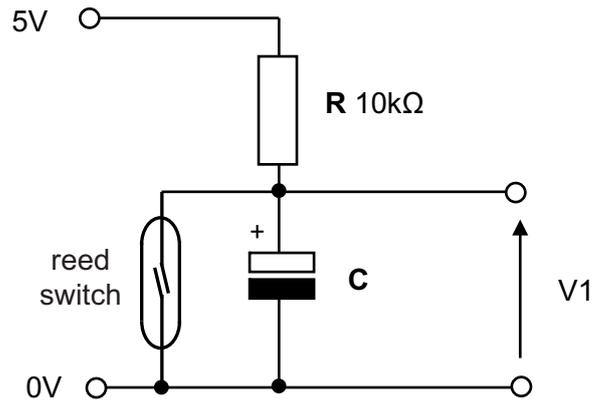
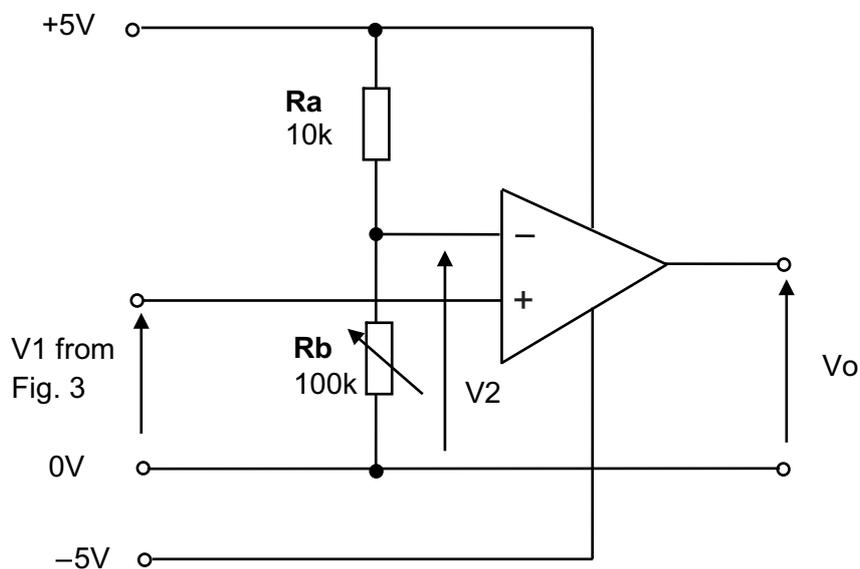
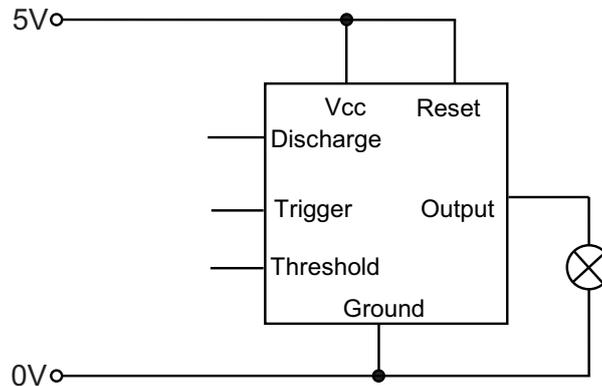

Fig. 3
Fig. 4
Fig. 5
10 (a) A RC circuit with a normally open reed switch is shown in Fig. 3.
- (i) State the effect on V_1 in Fig. 3 when a magnet is held close to the reed switch. [1]
- (ii) Calculate the required value for C in Fig. 3 for a time constant of 3 seconds. [2]
- (iii) The circuit in Fig. 3 could be modified so that the time taken to discharge the capacitor is approximately half the time taken to charge the capacitor after the power supply is removed. With the aid of a circuit diagram show how this could be achieved. [2]
(b) The output V_1 from Fig. 3 is to be connected to an input of a comparator as shown in Fig. 4.
- (i) The resistor R_b shown in Fig. 4 is a 100k variable resistor. State the resulting voltage V_2 if this resistor is adjusted to its minimum position. [1]
- (ii) Calculate the resulting voltage V_2 in Fig. 4 when the variable resistor R_b is adjusted to a value of 20k. [2]
- (iii) Assuming that the reed switch in **Fig. 3** is initially closed, explain the operation of the circuit shown in **Fig. 4** when the reed switch is opened and remains open. Assume that R_b is adjusted to a value which provides a voltage at V_2 of 3 volts. Your answer should make reference to V_1 , V_2 and V_o . [3]
- (c) The output V_o from the comparator circuit, as shown in **Fig. 4**, is used to operate the 555 timer circuit shown in **Fig. 5**, which in turn controls a 5 volt lamp. The lamp is required to flash at a rate of 1 Hertz.
- (ii) Redraw **Fig. 5** in your answer booklet to show how R_1 , R_2 and C are connected to the 555 timer to achieve the desired output. [3]